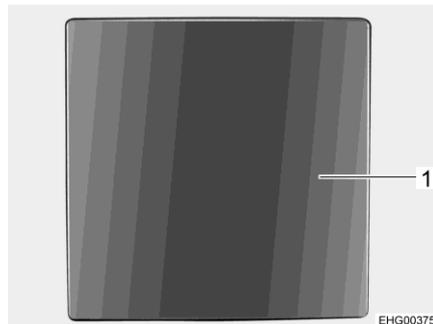

Fig. 59 Push button
- Push the push button (Fig. 59,1). The push button jumps out.